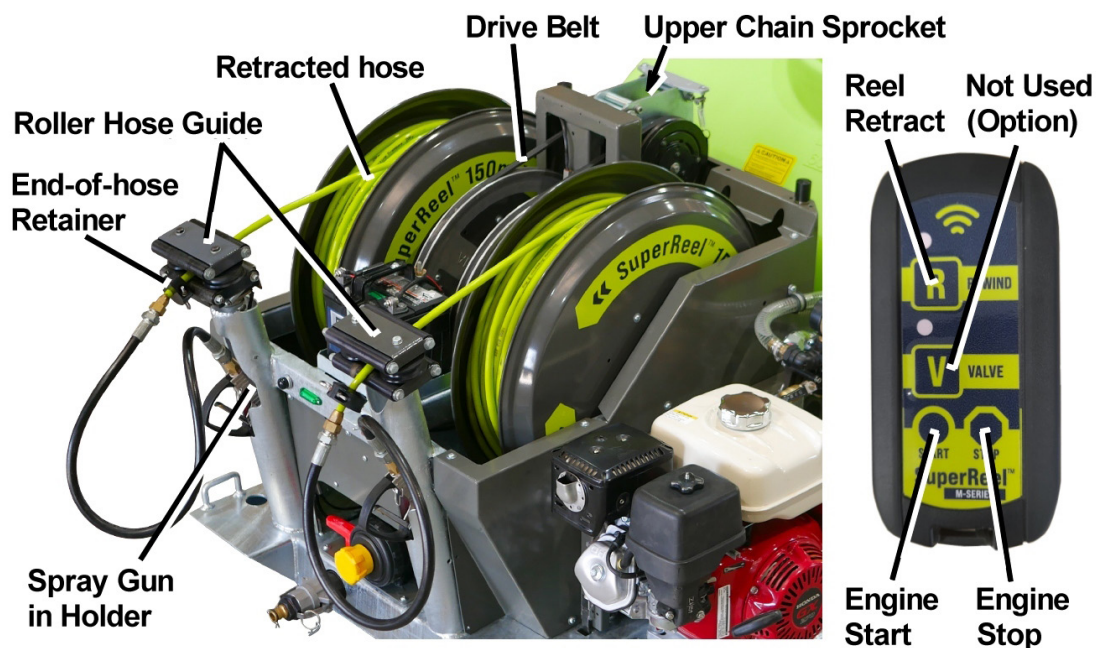

Figure 9 – SuperReel Hose Reels (central cover removed) and Remote Control
16. Press the button on the remote controls supplied with the SuperReel M-Series sprayer to start retracting the hose onto the relevant reel, refer to Figure 9. While holding onto the spray gun, walk back towards the SuperReel M-Series sprayer, ensuring there is minimal slack in the hose while it retracts. The hose will wind on to the reel's spool, guided by the integrated roller hose guide.